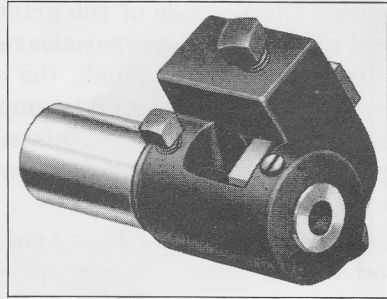
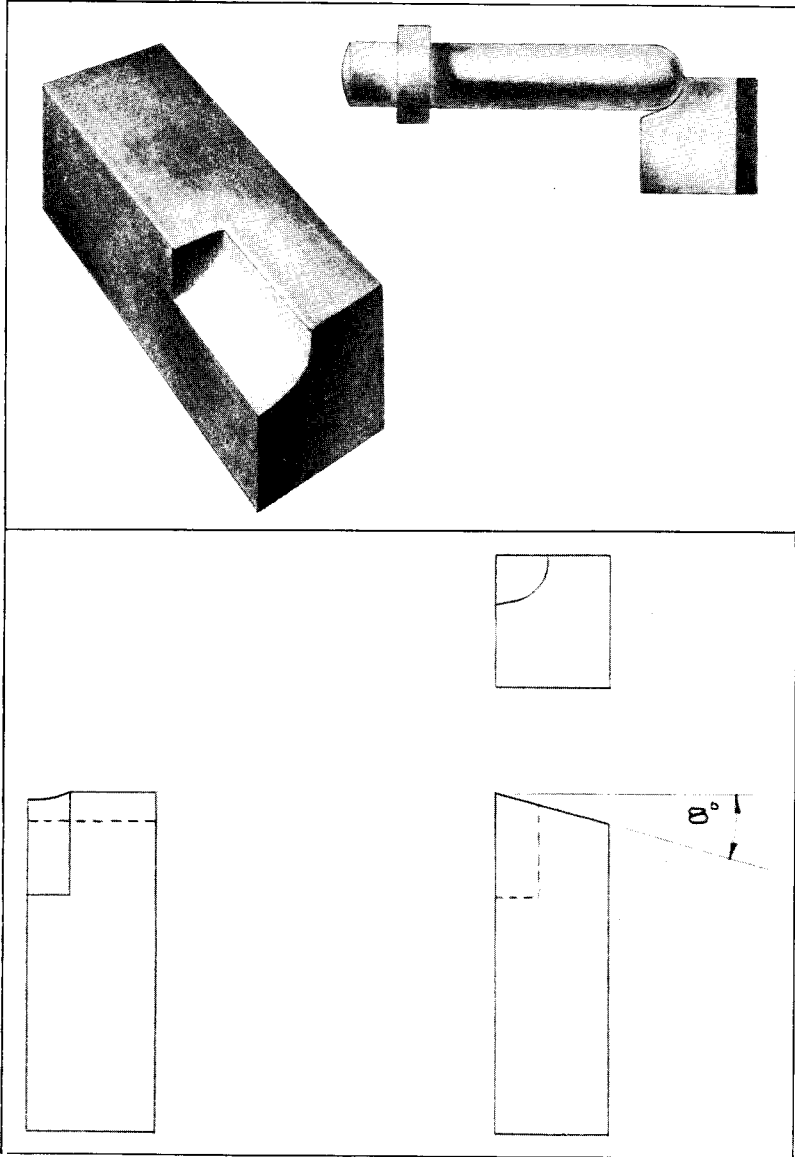

Fig. 9. Pointing Tool
Fig. 11. Pointing Tool Bit formed on its cutting end
**Sharpen the Pointing Tool Bit.** Except for its function, the pointing tool of Fig. 9 is entirely different from the circular pointing tool described in Job No. 3. This new tool has a square blade or bit formed on its cutting end to give the desired shape to the work piece. Fig. 11 shows the bit which will produce the spherical end required on this knurled stud.